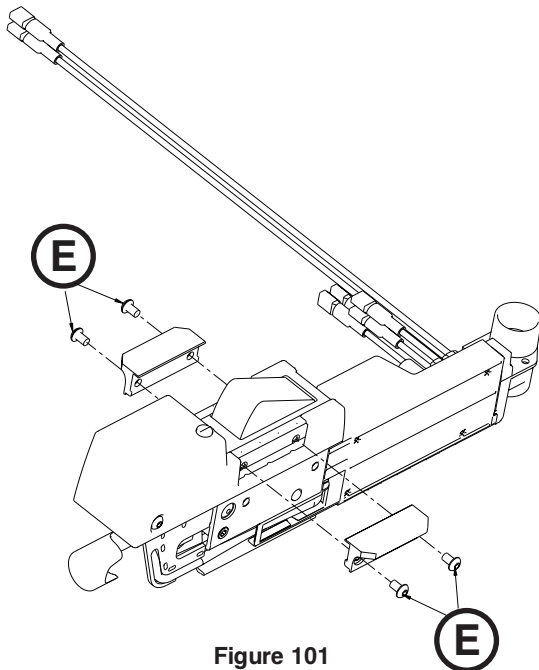

Figure 101
- Using a T25 Torx driver, remove the four button head cap screws (E) that secure the two retainer wings and remove the retainer wings (Figure 101). Save all parts for reinstallation.